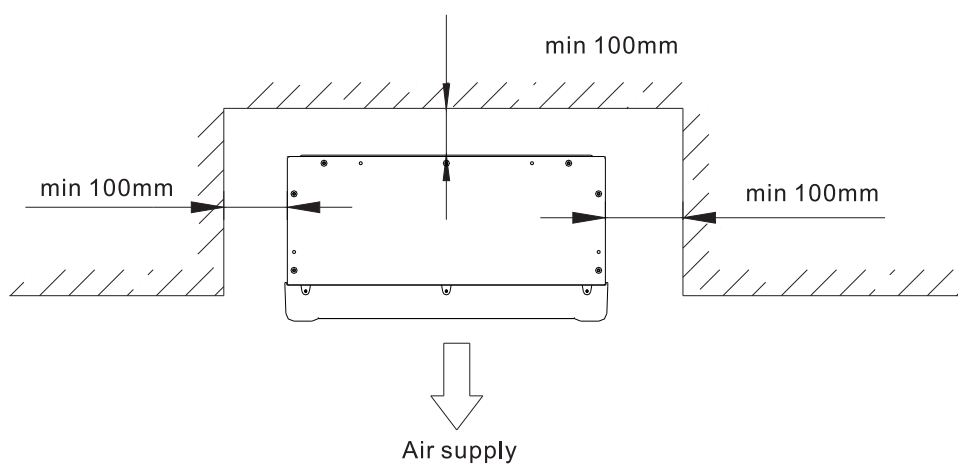
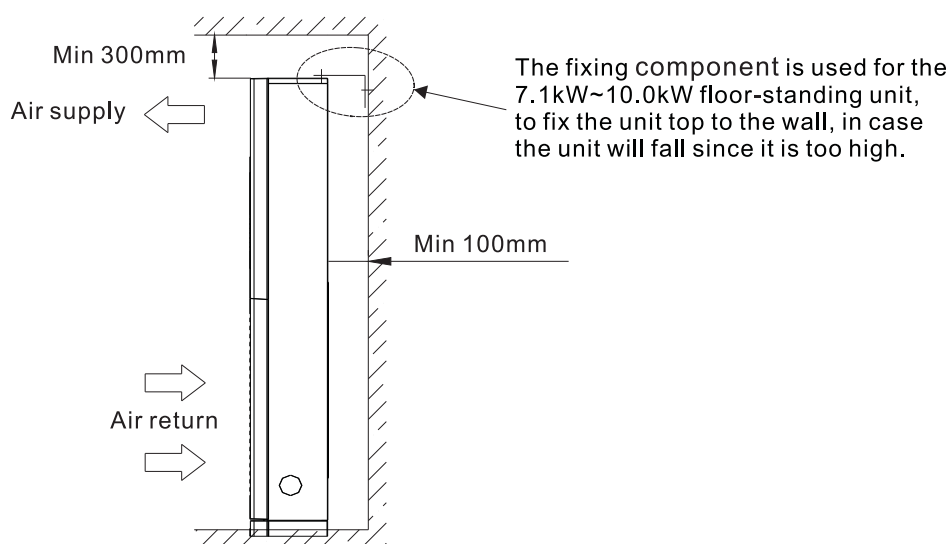

Figure 3-1
Figure 3-2
- 3) In order to ensure that the unit can run well and it is easy to install and maintain the unit, please leave enough room. (see Figure 3-1 and Figure 3-2)